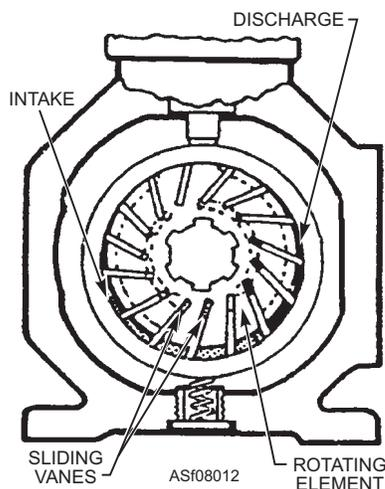

Figure 8-12.—Vane pump.
**VANE PUMPS.**—Figure 8-12 shows a vane pump of the unbalanced design. The rotor is attached to the drive shaft and is rotated by an outside power source, such as an electric motor or gasoline engine. The rotor is slotted, and each slot is fitted with a rectangular vane. These vanes, to some extent, are free to move outward in their respective slots. The rotor and vanes are enclosed in a housing, the inner surface of which is offset with the drive axis.